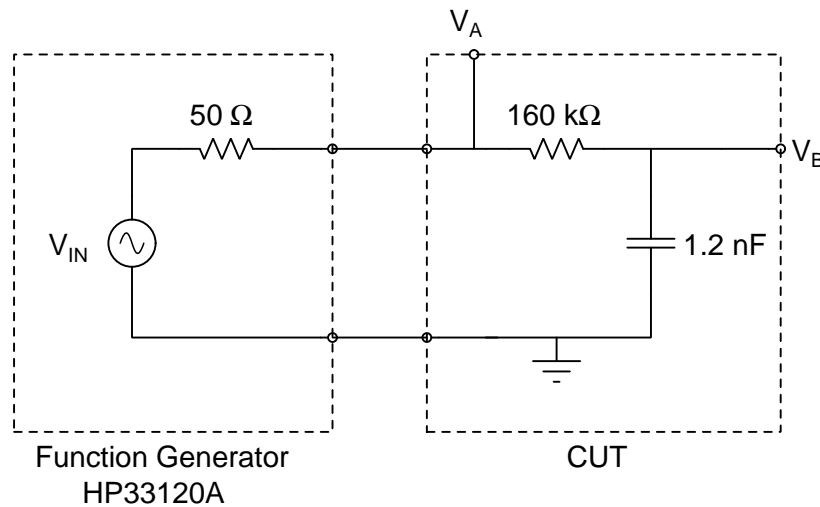

Figure 1: Circuit to be analyzed in Lab #2.
The circuit under test (CUT) is shown in Figure 1. Node voltages V_A and V_B will be measured using the two input channels on the oscilloscope. As in Lab #1, the input impedance of each channel will influence the circuit behavior. The 1X probes connecting the CUT to the measurement equipment are not explicitly shown in Figure 1. However, the capacitance of the probes can also influence the circuit behavior.
2. For the RC circuit shown in Figure 1:
- (a) For the circuit in Figure 1, set the peak input voltage set to 4 V, and use NGspice to simulate the node voltages V_A and V_B and the phase shift (PS) in degrees between the two nodes. Record you results in the “Ideal Simulated Circuit” columns in Table 1.
- (b) Modify the circuit schematic in Figure 1 to include the 1X probe capacitances and the input capacitances of the two oscilloscope channels at nodes V_A and V_B . With the peak input voltage set to 4 V, use NGspice to simulate the node voltages V_A and V_B and the phase shift (PS) in degrees between the two nodes. Record you results in the “Complete Simulated Circuit” columns in Table 1.
2. Measure the values for each component needed in the circuit shown in Figure 1 using the LCR meter and a DVM. When measuring the capacitance, measure both C and DF at frequencies of 100 Hz, 1 kHz, and 10 kHz. Calculate the ESR of the capacitor. Can the ESR be ignored? Explain your reasoning in your notebook.
3. Build the circuit shown in Figure 1: